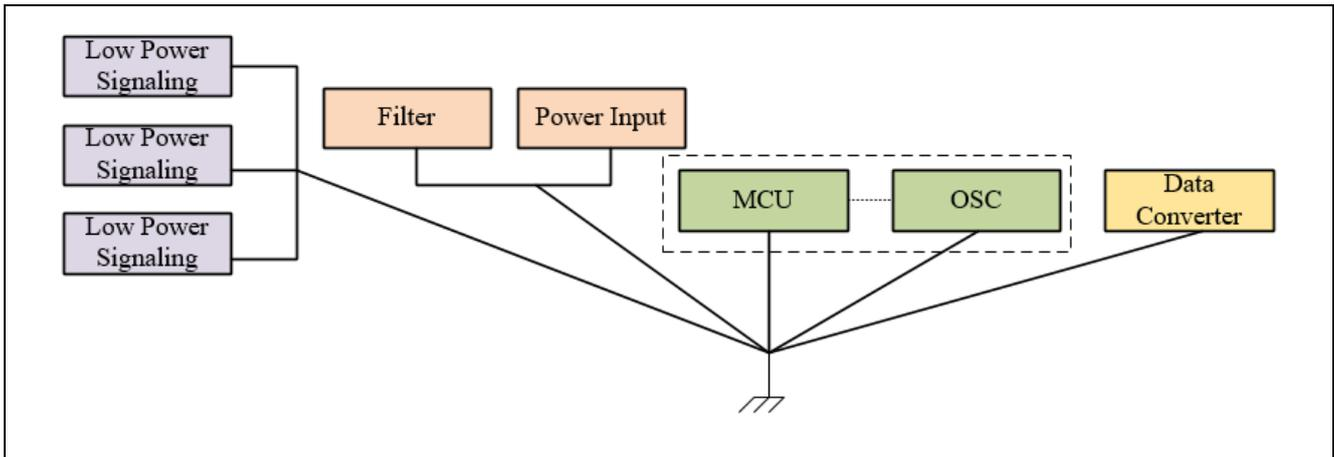

Figure 2. Hybrid single point return path
- Figure 2 shows a hybrid single point return path, in which sections of the circuit with a common function, such as digital electronics, or an MCU and oscillator, are referenced together.